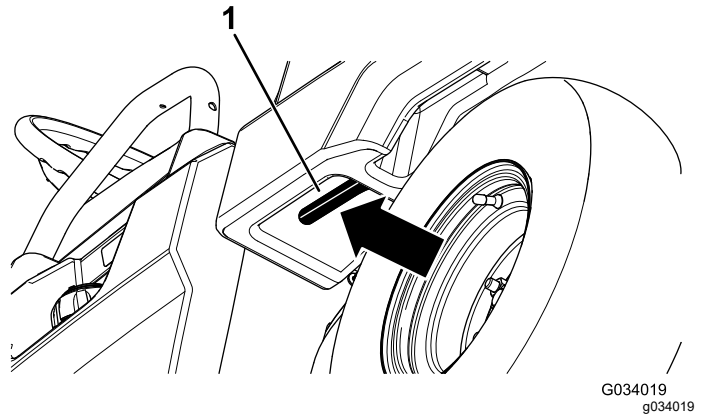

Figure 15
1. Pull the lever on left, inside of the cargo bed toward you and lift the cargo bed up (Figure 15).
1. Raise the cargo bed slightly by lifting up on the latch lever (Figure 15).